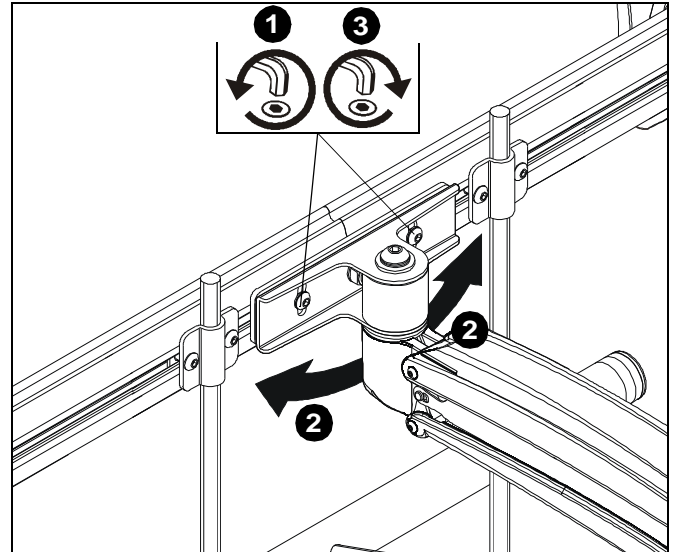

Figure 20
1. Loosen roll adjustment screws on back of array bracket. (See Figure 20)
2. Adjust roll of array bar as desired. (See Figure 20)
3. Tighten roll adjustment screws on back of array bracket. (See Figure 20)